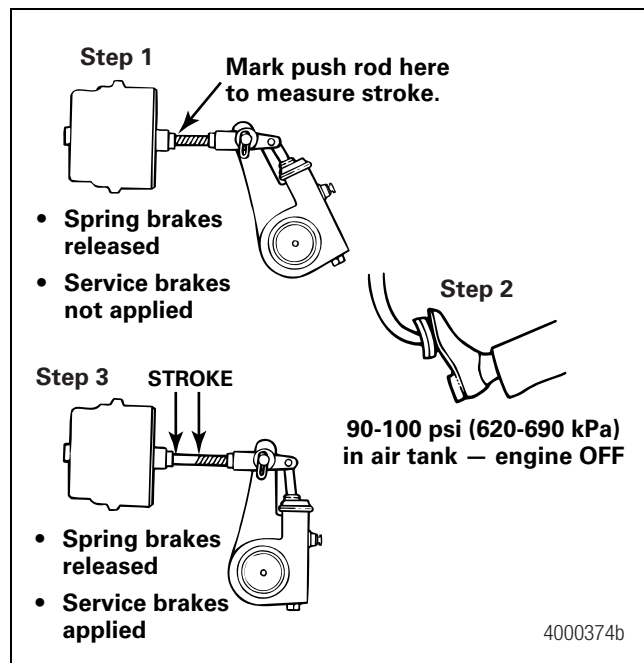

Figure 7.20
- With the brakes released, mark the push rod where it exits the chamber. Measure and record the distance. Have another person apply and hold the brakes on full application. Figure 7.20. Hold the ruler parallel to the push rod and measure as carefully as possible. A measurement error can affect CVSA re-adjustment limits. CVSA states that “any brake 1/4-inch or more past the re-adjustment limit, or any two brakes less than 1/4-inch beyond the re-adjustment limit, will be cause for rejection.”
- Measure the push rod travel or adjusted chamber stroke from where the push rod exits the brake chamber to your mark on the push rod. Measure and record the distance. Figure 7.20.